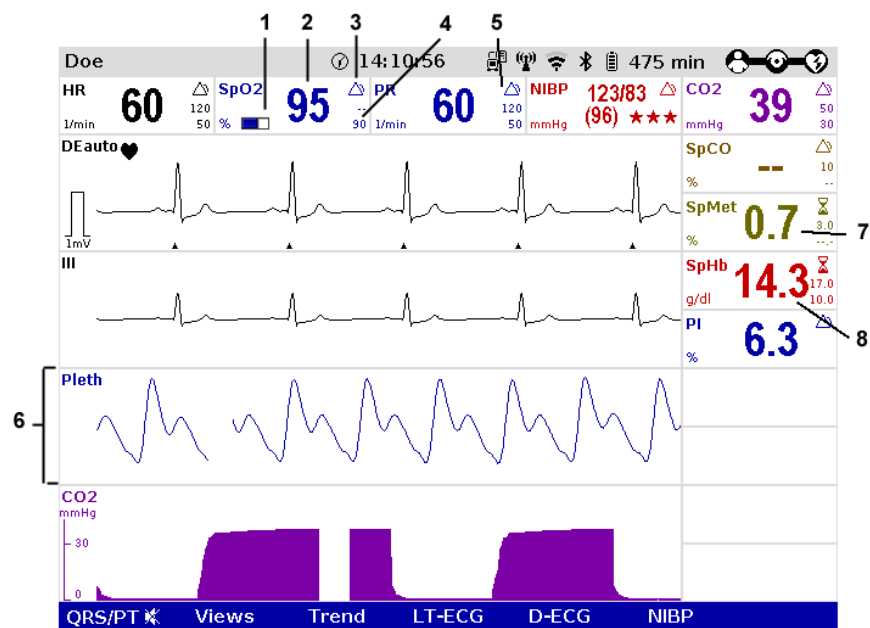

Fig. 6-20 Oximetry monitoring, configured screen (illustration may differ)
The signal intensity is a quality criterion for the capturing of measurement values. The signal intensity is measured and displayed as a horizontal bar in the parameter field SpO2 (see page 132 Fig. 6-20, item 1).